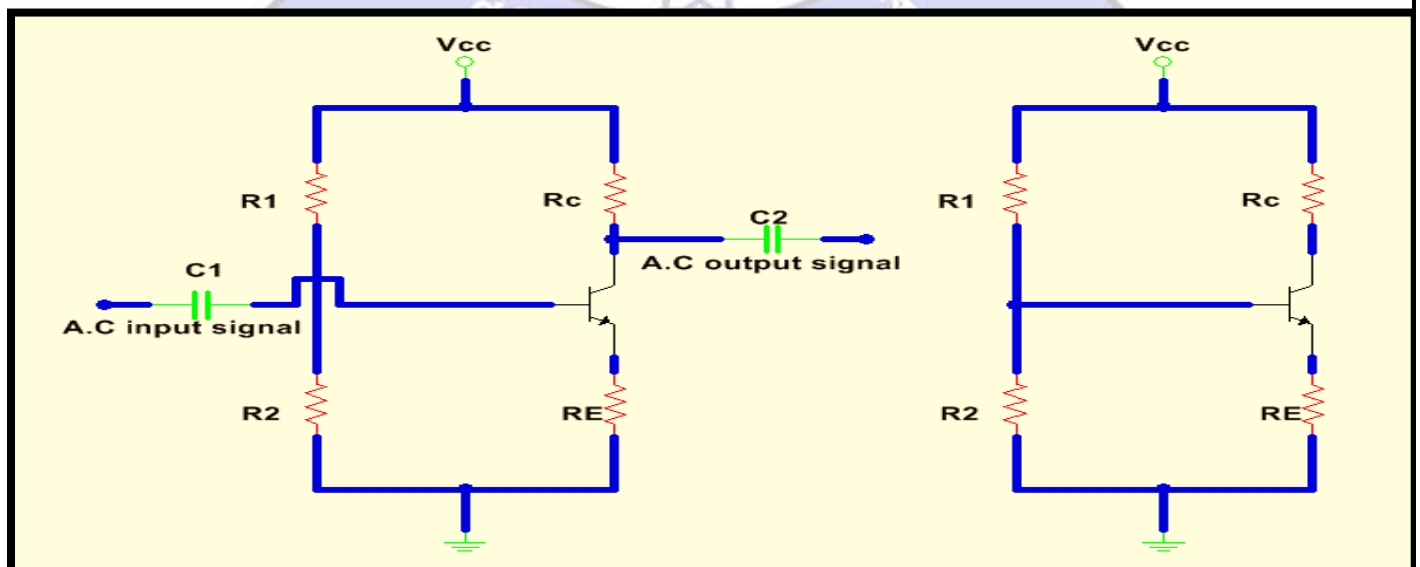

Fig.1
- In this form of biasing shown in Fig.1, R_1 and R_2 divide the supply voltage V_{CC} and voltage across R_2 provide fixed bias voltage V_B at the transistor base.